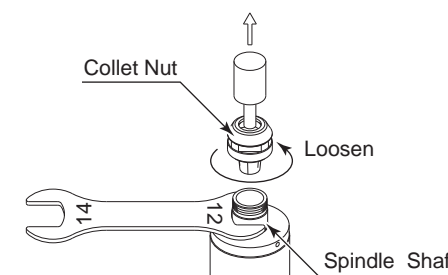

Fig. 4
- ① Remove the tool according to the section " 8. CHANGING THE TOOL " procedure above and remove collet nut assembly (Fig. 4).